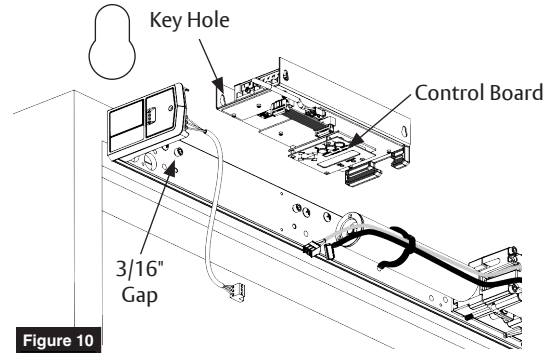

Figure 10
1. Insert two (2) screws. Leave 3/16" gap between head of screw and backplate. (Figure 10)
2. Slide power supply key holes over screws allowing narrow slots of key holes to rest on screws. (Figure 10)
**NOTE: Narrow slots of key holes are always at top and control board is always at bottom for proper installation. (Figure 10)**